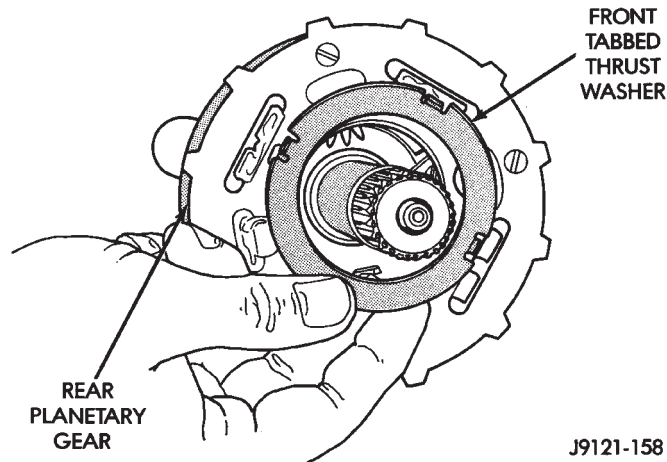

Fig. 87 Installing Rear Planetary Front Thrust Washer
(6) Install front thrust washer on rear planetary gear (Fig. 87). Use enough petroleum jelly to hold washer on gear. Be sure all four washer tabs are seated in slots.